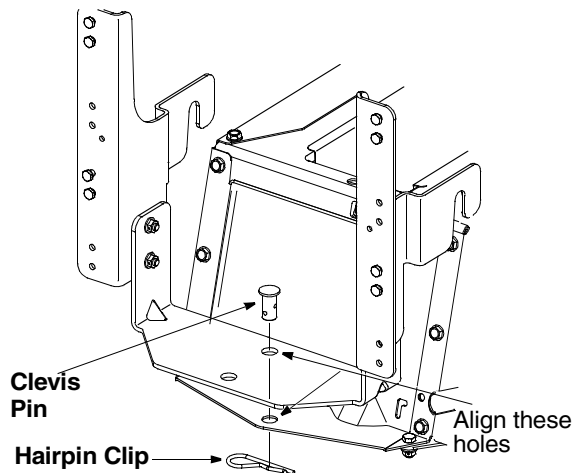

Figure 3
- Reinsert the clevis pin through the aligned holes in both the bracket assembly and the hitch plate and secure with the hairpin clip. See Figure 3.